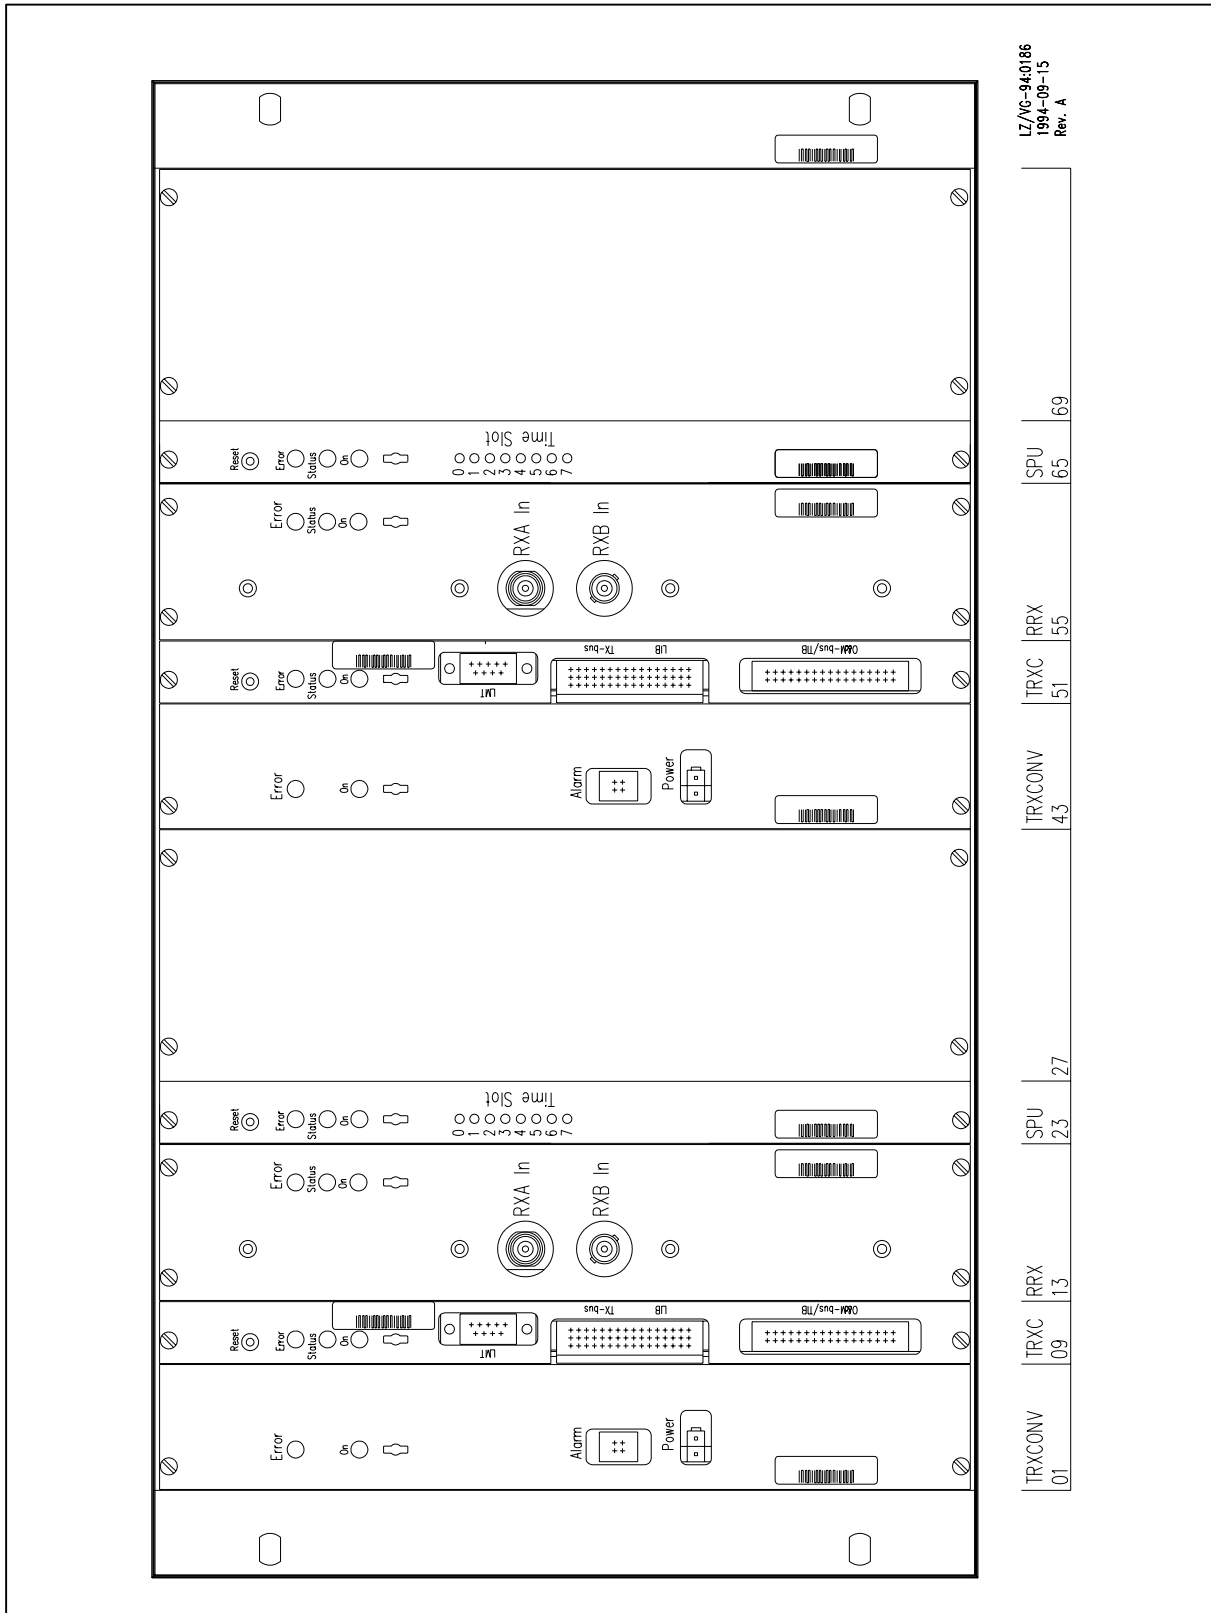

Figure 22 TRXD magazine equipped with SPU boards
The magazine can be installed in the cabinet, pos. 04 and 06. The magazine shall be equipped as shown in table 4 and figure 22.